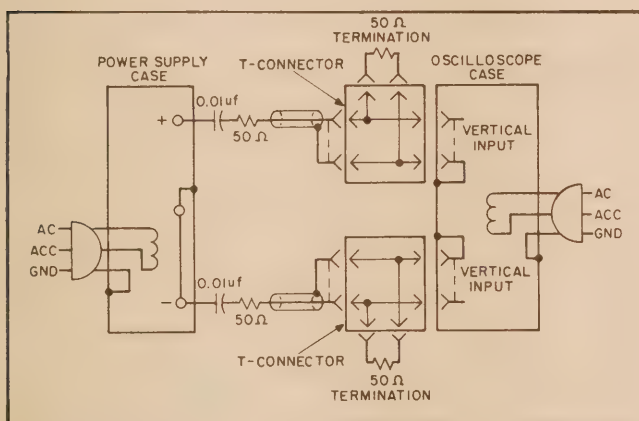

Figure 5-7. Noise Spike Test Setup
1. As shown in Figure 5-7, two coax cables, must be substituted for the shielded two-wire cable.
5-34 The circuit of Figure 5-7 can also be used for the normal measurement of low frequency ripple and noise; simply remove the four terminating resistors and the blocking capacitors and substitute a higher gain vertical plug-in in place of the wide-band plug-in required for spike measurements. Notice that with these changes, Figure 5-7 becomes a two-cable version of Figure 5-6C.